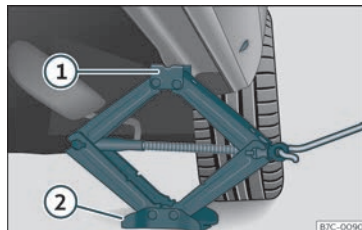

Fig. 36 Cross member: positioning the jack on the vehicle.
- Turn the jack* crank handle, located below the strut support point, to raise it until the tab ① >>> Fig. 36 is below the housing provided.
- Align the jack* so that tab ① "grips" onto the housing provided on the strut and the mobile base ② is resting on the ground. The base plate ② should fall vertically with respect to the support point ①.